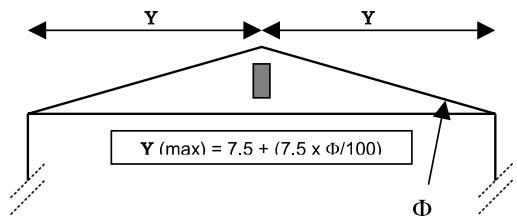

FIG. 4
When a Detector is positioned in the apex of a ceiling (See Fig.4), the lateral beam distance covered (Y) can be increased in relation to the angle of the pitch ( $\Phi$ ), to a maximum pitch of 25°.